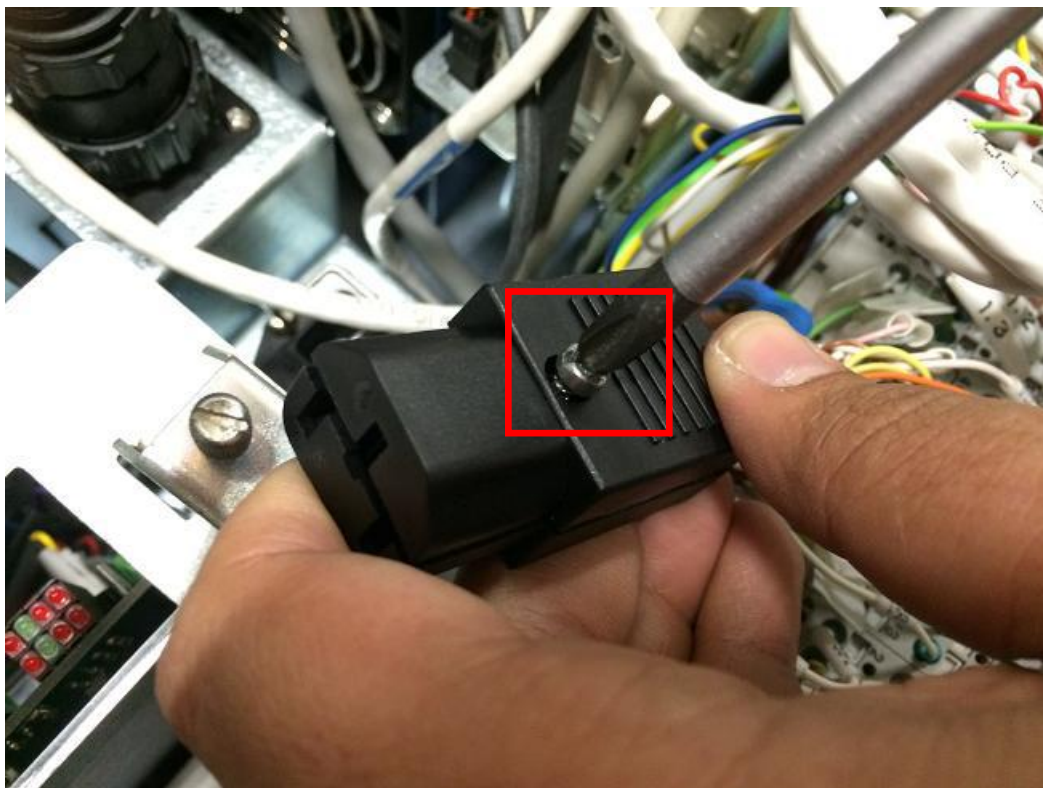

Figure 21
26. Assemble the Insulator Cover at Vertical Type Power Connector as Figure 21.